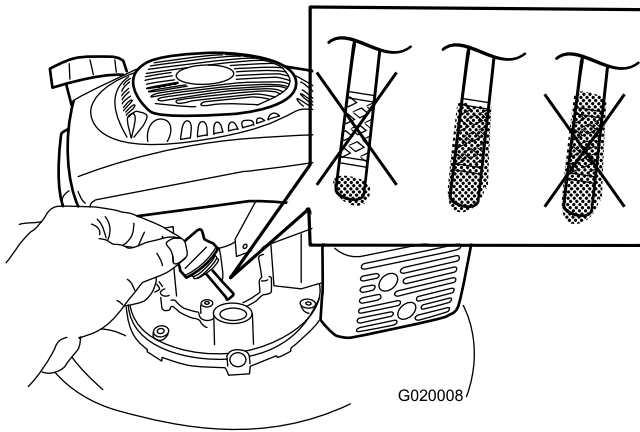

Figure 5
1. Remove the dipstick (Figure 5).
2. **Slowly** pour oil into the oil-fill hole until the oil level reaches the Full line on the dipstick (Figure 5). **Do not overfill.** (Max. fill: 0.59 l (20 oz.), type: 10W-30 or SAE 30 detergent oil with an API service classification of SJ or higher.)
Note: Each time you check the oil level, remove the dipstick and wipe it clean, insert it into the oil filler neck (but **do not** screw it in), then remove it again and check the level (Figure 5).